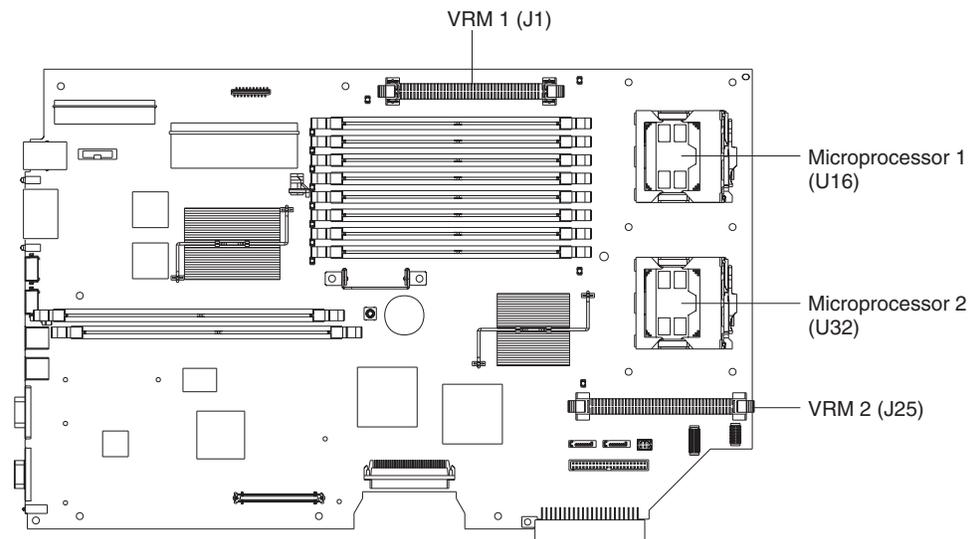

Figure 27. Location of microprocessor and VRM sockets
- Figure 27 shows the microprocessor sockets and the voltage regulator module (VRM) slots on the system board.